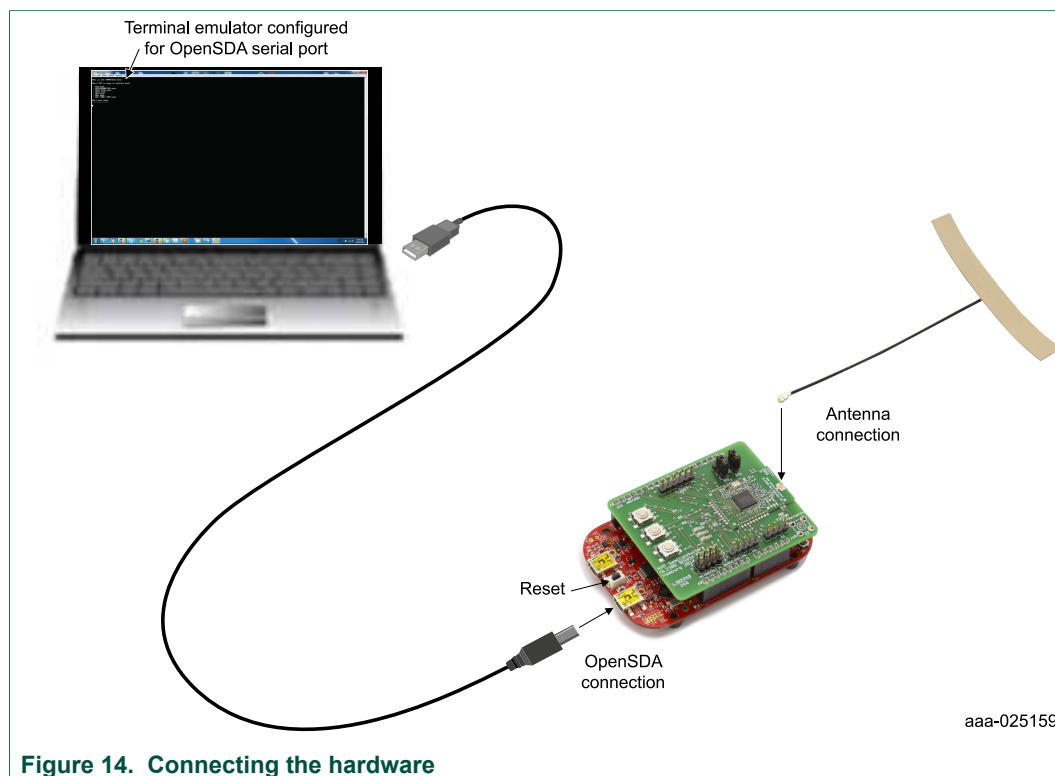

Figure 14. Connecting the hardware
1. Plug one end of a mini USB cable to the SDA USB port on the board. Plug the other end of the cable to a PC. See Figure 14.